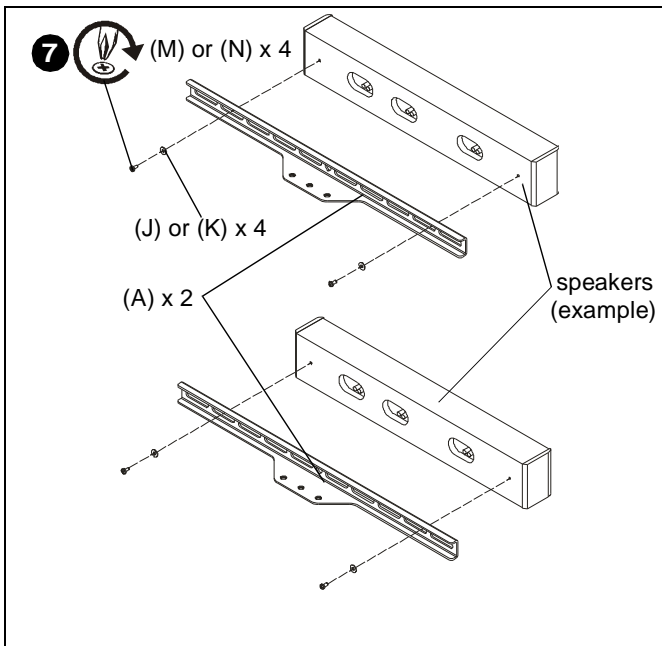

Figure 11
- Use four 1/4-20 x 1/2" Phillips pan machine screws (M) with 1/4" washers (J) or four #10-24 x 1/2" Phillips pan machine screws (N) with four #10 washers (K) to secure two speaker brackets (A) to speakers (not included). (See Figure 11)